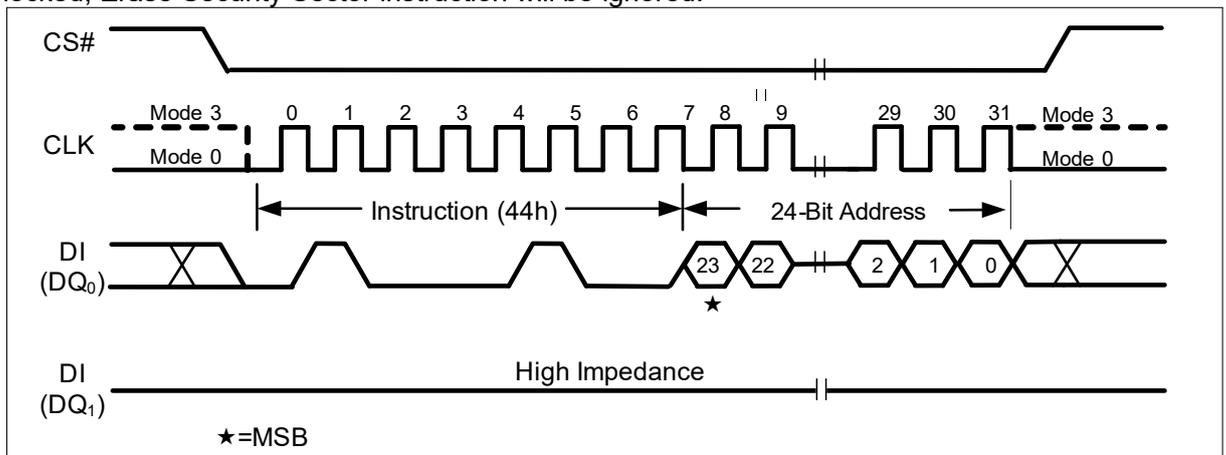

Figure 38 Erase Security Sectors Instruction (SPI Mode)
The Erase Security Sector instruction sequence is shown in Figure 38. The CS# pin must be driven high after the eighth bit of the last byte has been latched. If this is not done the instruction will not be executed. After CS# is driven high, the self-timed Erase Security Sector operation will commence for a time duration of  $t_{SE}$  (See “12.6 AC Electrical Characteristics”). While the Erase Security Sector cycle is in progress, the Read Status Register instruction may still be accessed for checking the status of the WIP bit. The WIP bit is a 1 during the erase cycle and becomes a 0 when the cycle is finished and the device is ready to accept other instructions again. After the Erase Security Sector cycle has finished the Write Enable Latch (WEL) bit in the Status Register is cleared to 0. The Security Sector Lock Bit (LB) in the Status Register-2 can be used to OTP protect the Security Sectors. Once the LB bit is set to 1, the Security Sector will be permanently locked, Erase Security Sector instruction will be ignored.